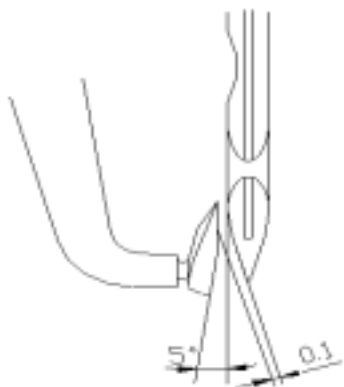
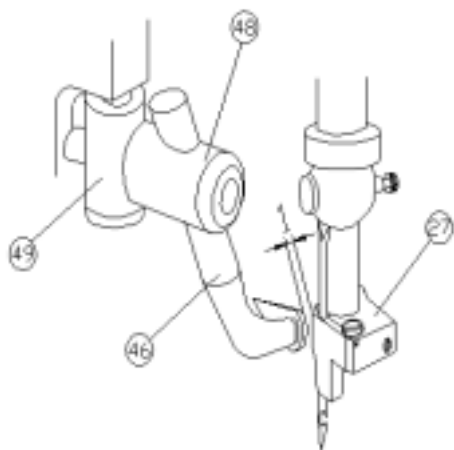

FIG.21
FIG.22
plate. The tip of the hook should be inclined at an angle of about  $5^\circ$  to the needle in the order to avoid any possibility of the needle breaking during its return stroke. FIG. 21. This is done by rotating the hook in its holder (48). FIG. 22. The upper hook returns to its starting position at the second cycle. Remaining in the second cycle, turn the hand wheel so as to bring the back of the fabric clip. This is done by moving the hook holder (48) forward and backward in its support (49). FIG. 22.